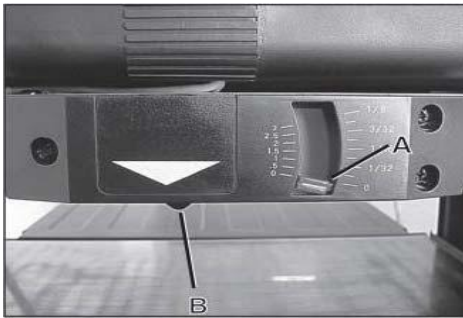

FIG. 11
1. With the machine OFF, insert your workpiece just under the cut scale (A). SEE FIG 11
2. Crank the raising / lowering handle until the button (B) comes in contact with the workpiece. As you rotate the raise / lower handle, the needle on the depth of cut scale will move showing how much material will be removed in that pass.